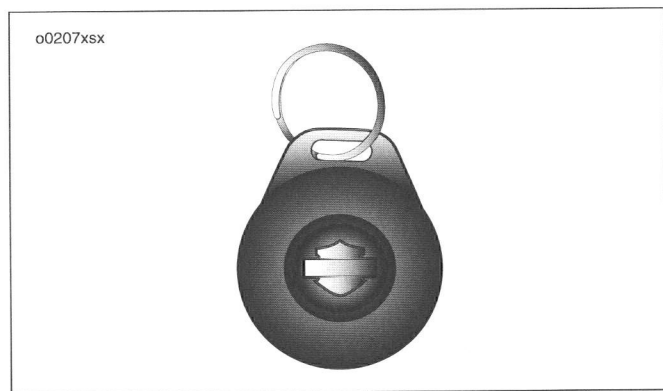

Figure S-1. Key FOB
- **Remote arming/disarming:** See Figure S-1. Owners may enable and disable security alarm and immobilization functions with a remote, personally carried transmitter. This transmitter is referred to as a key **FOB** within this document.